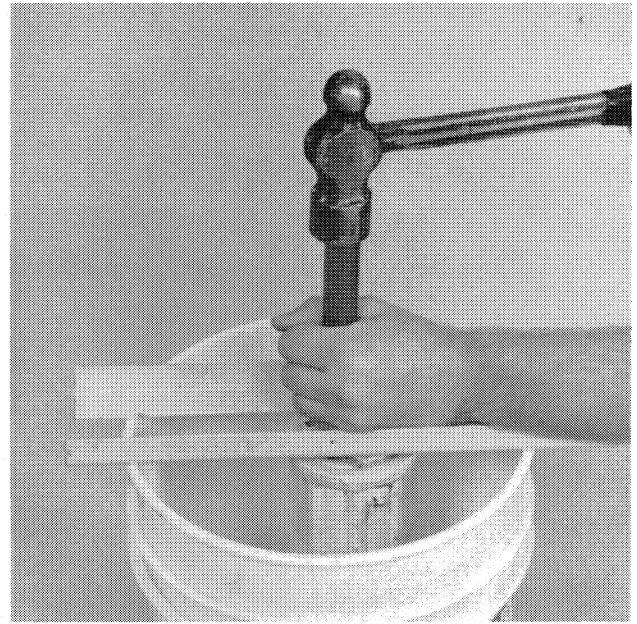

Figure 2-17
4. Drive the cylinder out of the housing using a 1-1/2" shaft as shown in Figure 2-17.